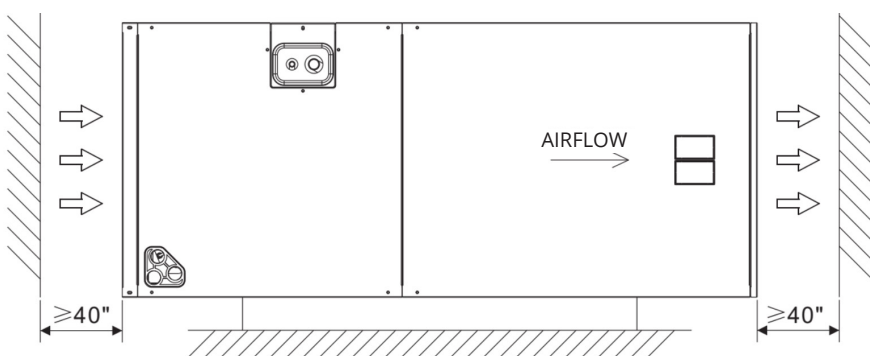

Figure 2-1 Clearances in the Horizontal Position
- Install the indoor and outdoor unit, power supply wiring, and connecting wires at least 3.5ft (1.0668m) away from televisions or radios in order to prevent image interference or noise. To ensure proper installation, select a solid and level site. Ensure enough space maintained for installation and maintenance. See Figures 2-1 and 2-2.